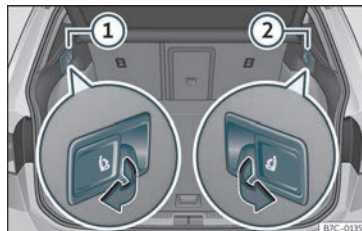

Fig. 108 In the luggage compartment: levers for remote release* of the left part **1** and right part **2** of the rear seat backrest.
- Pull the unlocking lever»» Fig. 108 of the part of the backrest to fold down.